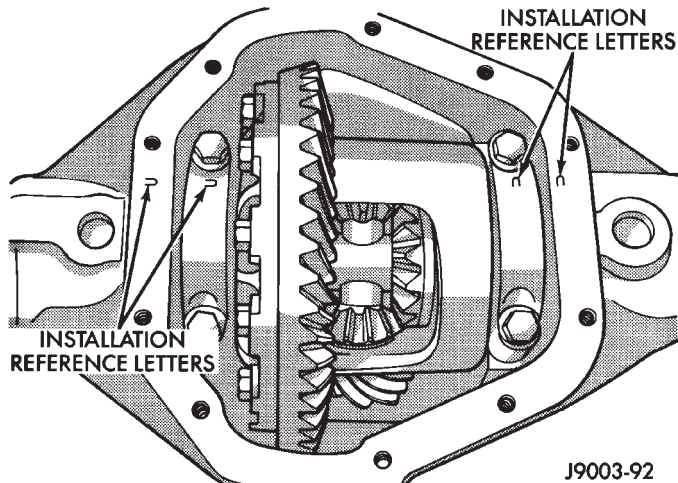

Fig. 30 Bearing Cap Identification
- (1) Raise and support vehicle.
- (2) Remove the lubricant fill hole plug from the differential housing cover.
- (3) Remove the differential housing cover and allow fluid to drain.
- (4) Remove hub bearings and axle shafts.
- (5) Note the installation reference letters stamped on the bearing caps and housing machined sealing surface (Fig. 30).